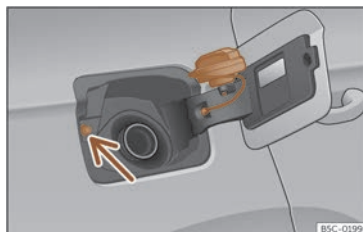

Fig. 199 Fuel tank flap with tank cap attached.
- Place it in the space on the hinge of the open flap >>> **Fig. 199**.
Avoid touching the fuel tank flap lock button >>> **Fig. 199** (arrow). The system will interpret that you have finished and cannot continue refuelling. Press the  button on the driver's door again to continue.